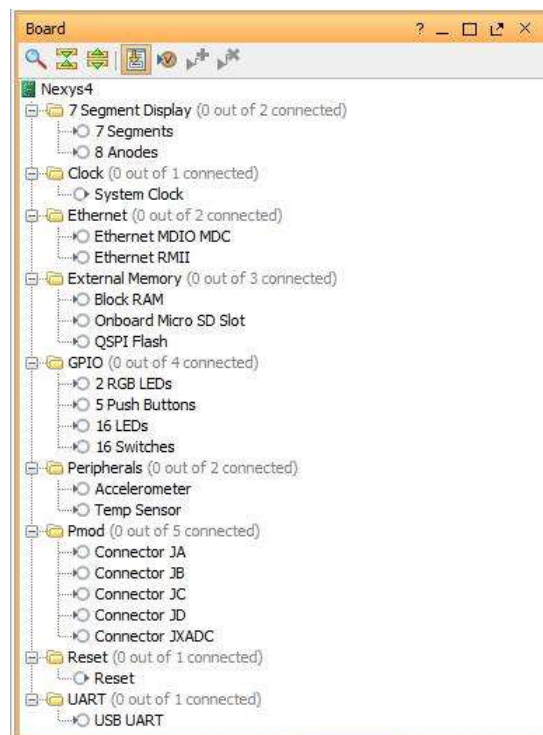

Figure 6 Using the board part interfaces
1. Click the Board tab. You can see as in Figure 6 that there are several components listed in that tab. These components are present on the Nexys-4 board. They are listed under different categories in the Board window.